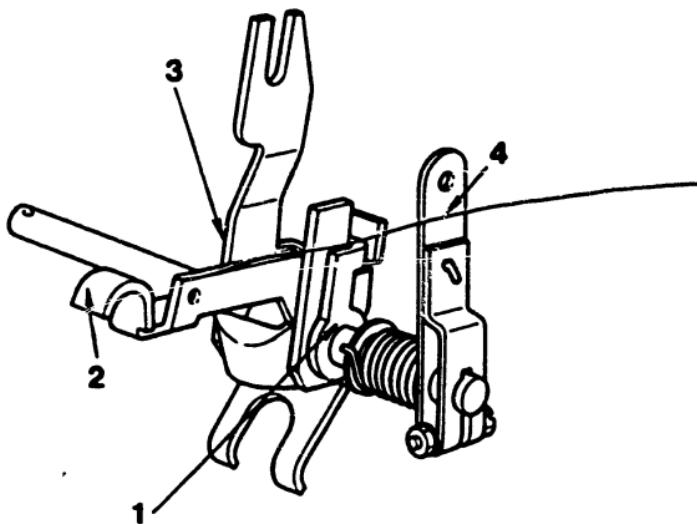

Fig. 52 Stop lever and related parts
4. Fig. 52 shows the stop lever and related parts.